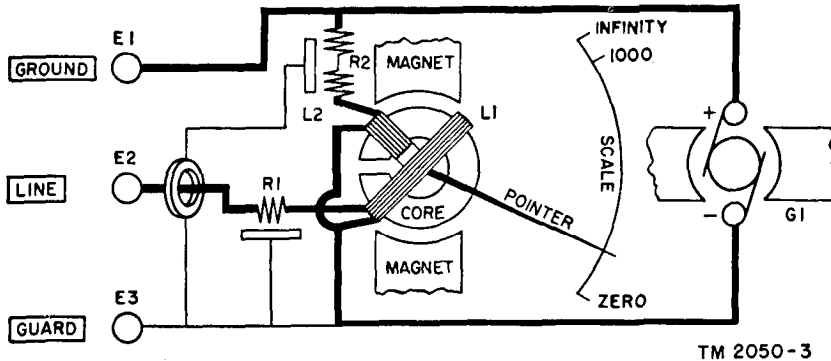

Figure 19. Test set I-48-B and Ohmmeter ZM-21A/U, functional diagram.
a. The working circuit of the insulation resistance measuring set is designated in heavy lines in figure 19. The crank of the hand generator operated at a speed of 160 rpm rotates generator G1 at approximately 6,000 rpm. The generator delivers a potential of 500 volts dc. With no connections made to the ohmmeter terminals, current flows from the negative ( - ) terminal of generator G1, through potential coil L2 of the meter, and through the two resistors R2 to the positive
The guard circuit is shown in figure 19 in light lines. This circuit is used for measurements over 100 megohms. The guard circuit consists of a metal ring around LINE terminal L2, metal plates on which resistors R1 and R2 are mounted, and, in Test Set I-48-B, a shielded cable that connects the ring and the plates to GUARD terminal E3.
*b.* Functional diagram (fig. 19).